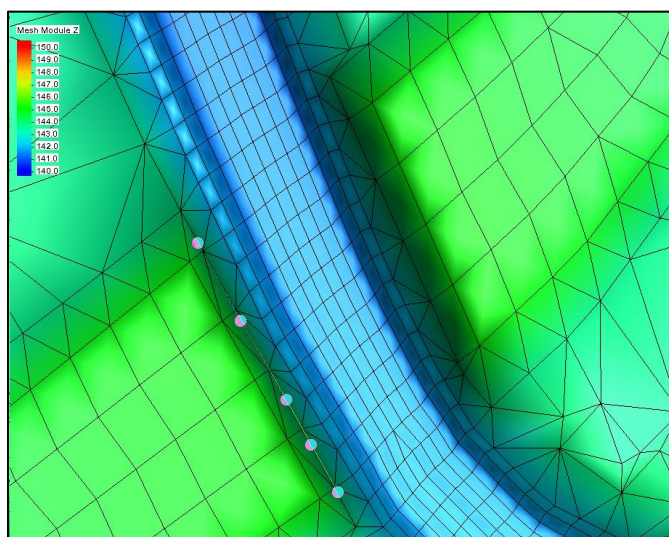

Figure 3 Multiple points on left bank of channel
6. Click a few more points along the line of the channel bank as shown in Figure 3.